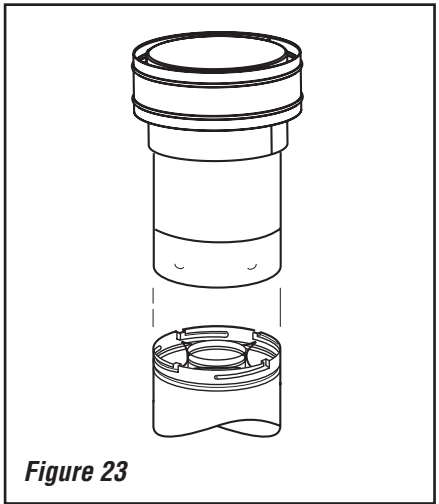

Figure 23
K. Install the vertical termination - The final step involves installation of the SV4.5CGV-1 Vertical Termination. Extend the vent sections to the height as shown in the "Vertical vent termination section" in **Figure 4** on **Page 6**. The SV4.5CGV-1 Vertical Termination (**Figure 23**) can be installed in the exact same fashion as any other **Secure Vent™** section. Align the termination over the end of the previously installed section, adjusting the radial alignment until the four locking dimples of the termination are aligned with the inlets of the four incline channels of the last vent section. Push the termination down until it fully engages, then twist the termination clockwise running the dimples down and along the incline channels until they are seated at the end of the channels.